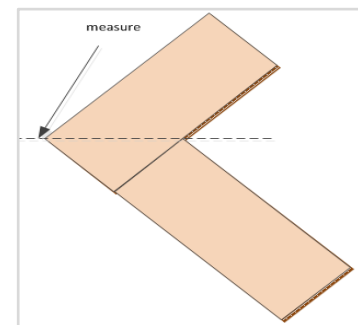

Figure 3
4. The working lines are determined by either dividing the diagonal measurement by 4 or calculate $\sqrt{a^2 + b^2} = c$ (Figure 3).